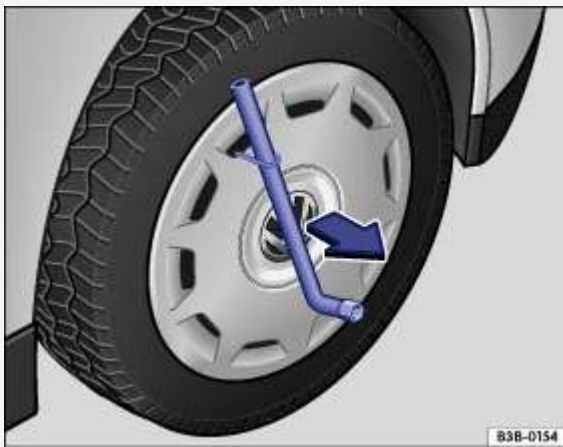

Fig. 221 Pulling the wheel cover off.
- Slide the lug wrench through the clip ⇒ Fig. 221 and pull the wheel cover off in the direction of the arrow.